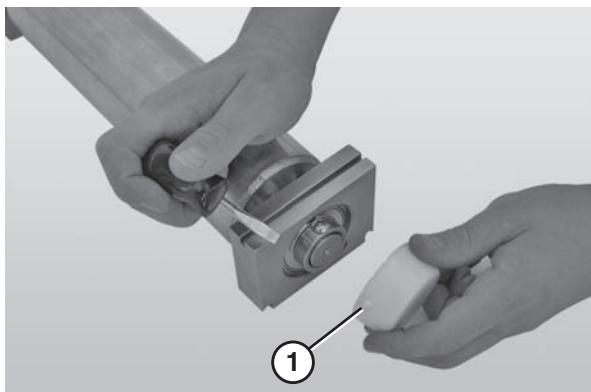

Figure 99
2. Remove the bearing cover (**Figure 99, item 1**).